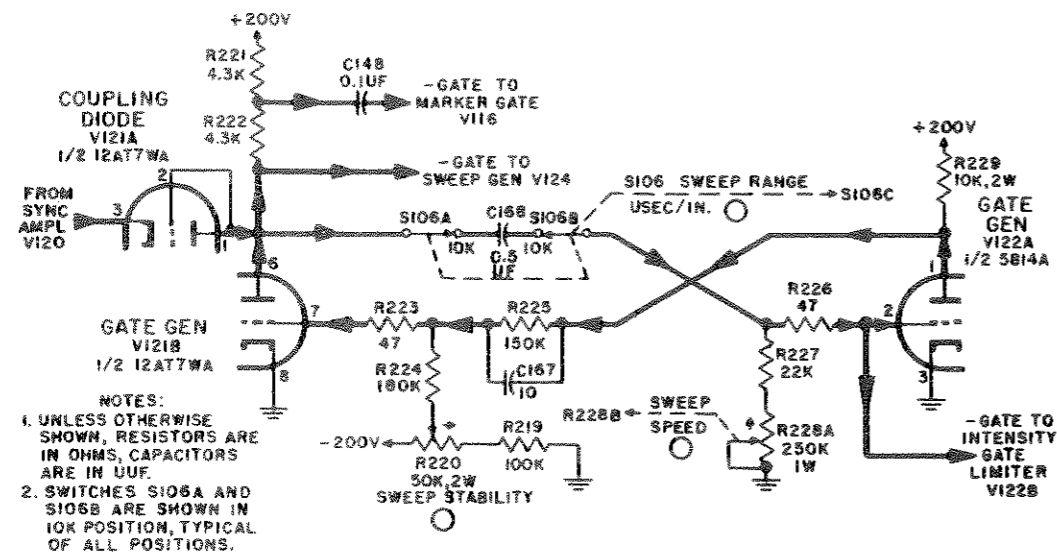

Figure 2-10. Gate Generator, Simplified Schematic Diagram.
(3) GATE GENERATOR (See figure 2-10) – The Gate Generator is basically a flip-flop type multivibrator using two triodes, V121B one-half JAN12AT7WA, and V122A one-half JAN5814A. In normal operation the Gate Generator is driven, each cycle, by a triggering voltage from the Sync Amplifier V120 through Coupling Diode V121A, one-half JAN12AT7WA. A free-running condition can be obtained at a point on the SWEEP STABILITY control, R220, with clockwise rotation. In the driven condition, V121B is the normally-off tube and V122A the normally-on (i.e. conducting). Coup-
ling Diode V121A can pass only the negative-going portion of sync signals from V120. In normal operation, the leading edge of the sync signal, coupled via C168 to the grid of V122A, tends to cut off conduction in that tube and produces at the plate (pin 1) an amplified positive-going signal which, via R225, drives V121B into conduction so that its plate (pin 6) becomes more negative. This regenerative action cuts off V122A and saturates V121B almost instantly. After a period of time determined by the value of capacitance (C168 in Fig. 2-10) selected by the SWEEP RANGE U SEC/IN switch S106, and the value of resistance set on R228A, SWEEP SPEED, the circuit flops back into its stable condition. This action results in equal negative-going output rectangular waves at R221 and R222 in the plate circuit of V121B, which are used to gate the Marker Generator and the Sweep Generator respectively. A negative-going peaked wave signal produced at the grid (pin 2) of V122A is applied to the Intensity Gate forming circuits. Because the time of occurrence and the time-base of these three gate voltage sources is necessarily the same, the result is exact synchronism of the three gated circuits. As the SWEEP STABILITY control R220 is advanced clockwise, a bias point is reached where V121B becomes conducting; the oscillation described above will start and continue repetitively, with or without a sync signal.